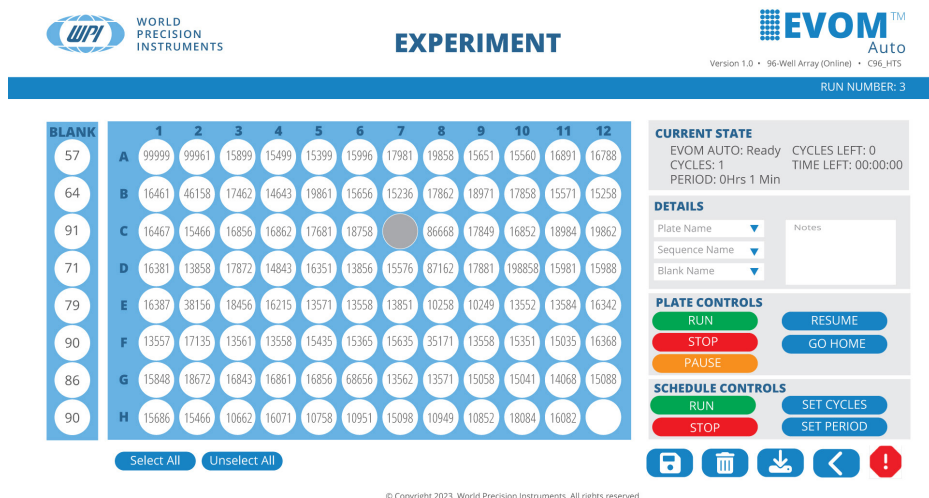

Fig. 35—The *Experiment* window appears.
1. Select *Experiment* from the main menu. The *Experiment* window appears (Fig. 35).